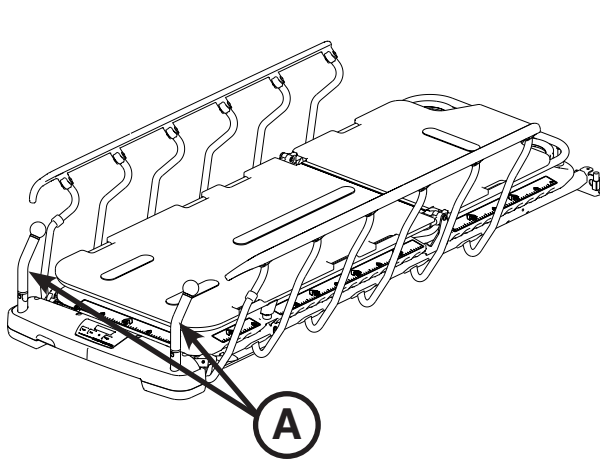

Figure 21: Foot End Push Handles Open
To use the push handles, pivot the handles (A) up and push down until they are locked into position (Figure 21).